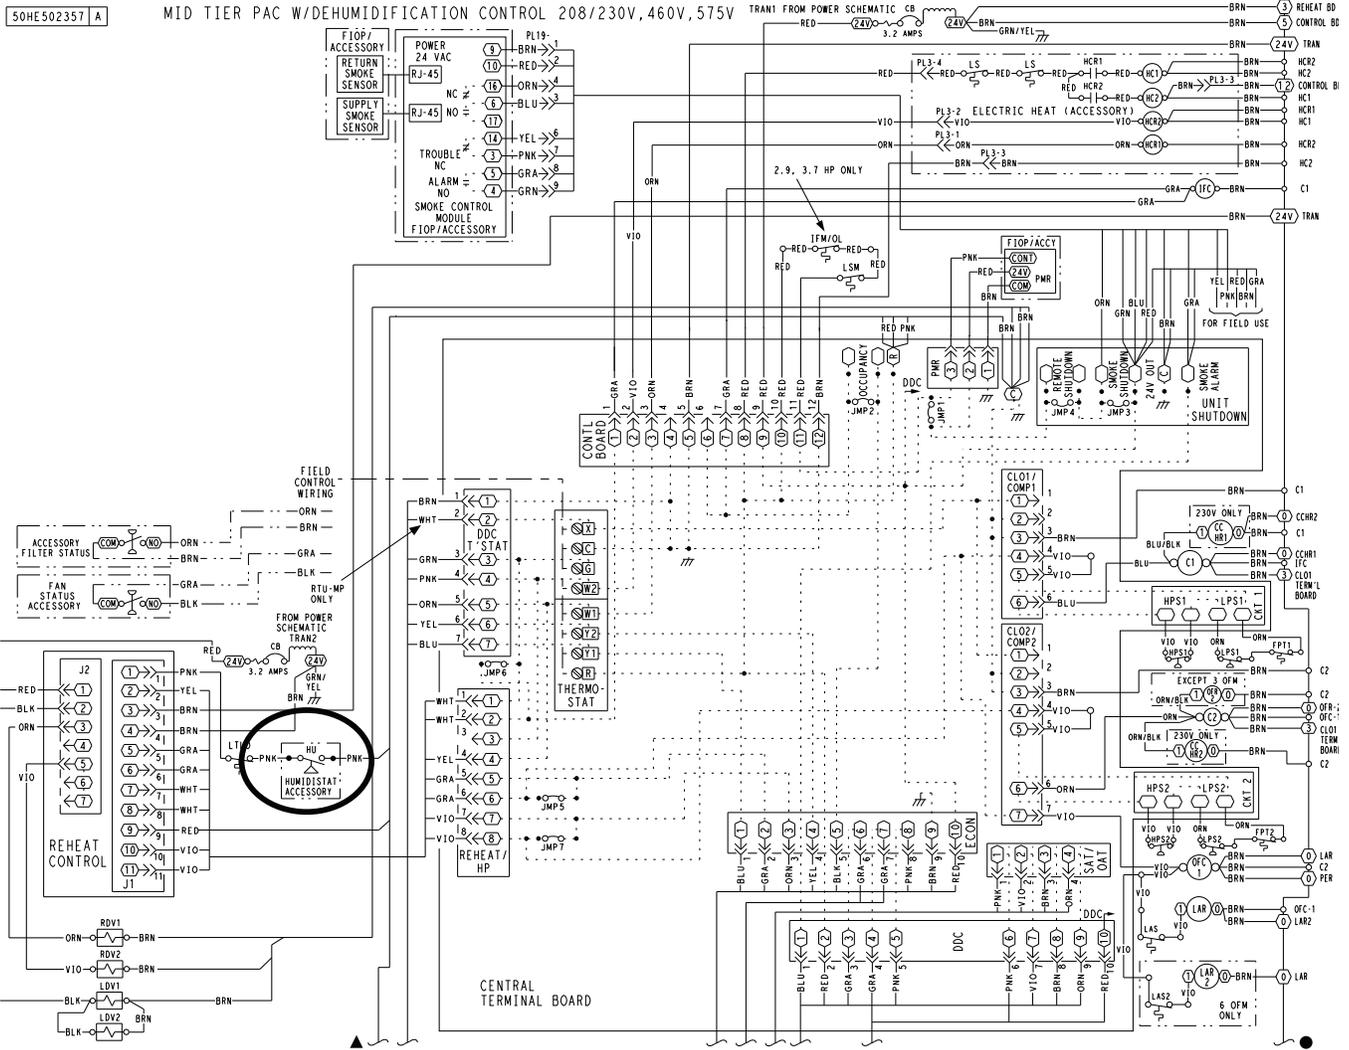

Fig. 33 — Typical Hot Gas Re-Heat Dehumidification System Humidistat Wiring
3. Use wire nuts to connect humidistat cable to two PINK leads in the low-voltage wiring as shown in Fig. 33).